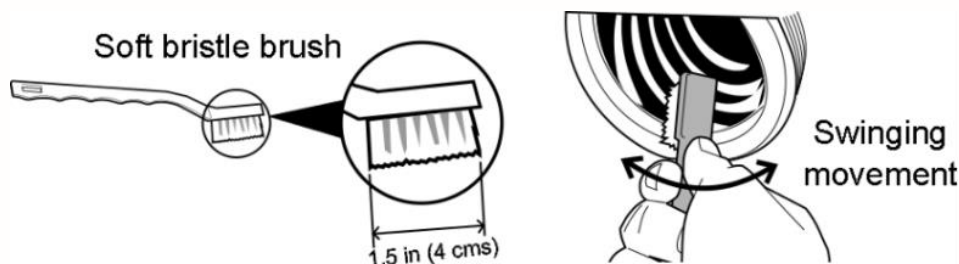

FIG. 4 TIP FOR CLEANING ROUGHNESS PARTS
2. Using a soft bristle brush (not provided), -See Fig 4- clean each component with adequate detergent, especially the inside of the headstock (8) to eliminate waste and food debris.
5. After doing this procedure it is important to lubricate both the knife (5) and plate (4) with the included mineral oil and then reassemble.